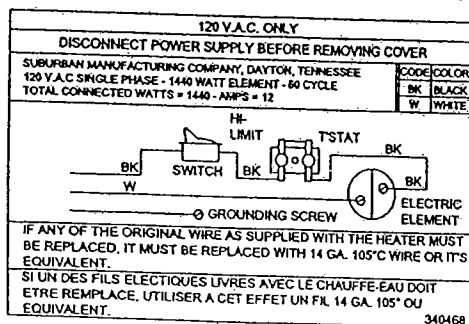

Figure 9
- D. Check rating plate and wiring diagram (Figure 9) before proceeding. Install a fused safety switch or circuit breaker of adequate capacity between heater and electrical power source. Attach the black and white wires from the fused switch or breaker to corresponding colored wires in heater junction box. A green wire from a well grounded source must be attached to the green nut in the junction box.